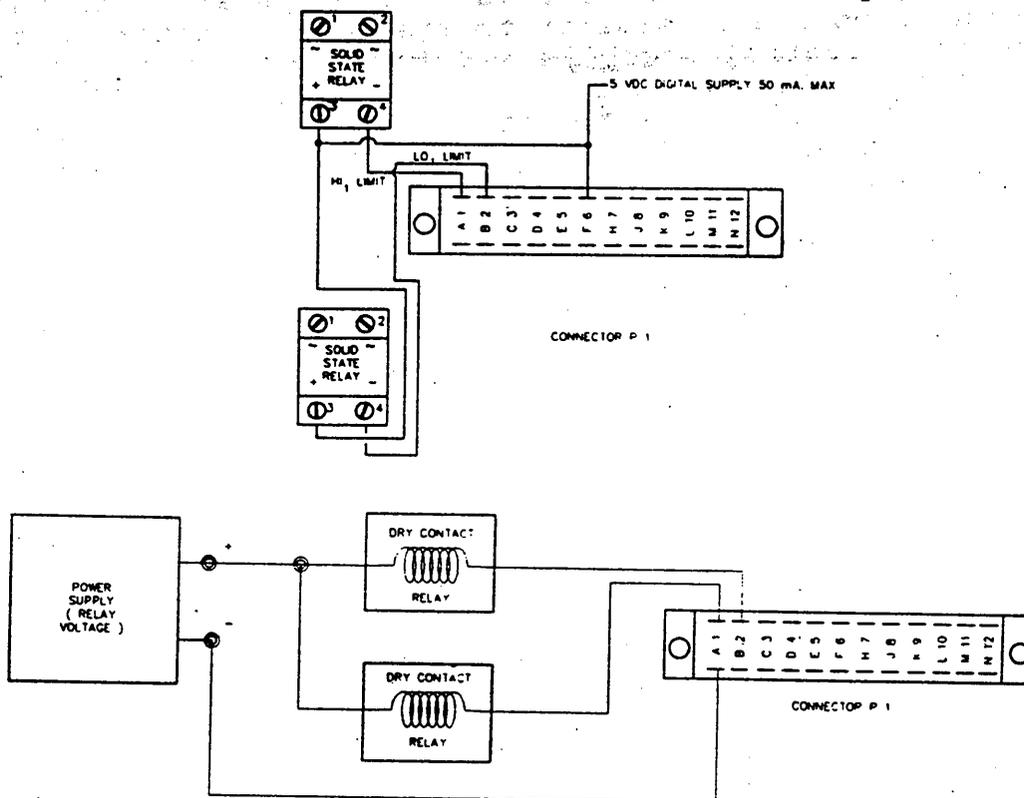

Figure 7.1 - Model 450d Limit Wiring Diagram's
2. Open drain V-MOS FET transistors are provided to drive external relays for the limits. The user should provide either solid state or dry contact relays requiring 36 volts or less at a current not exceeding 200ma. Figure 7.1 depicts the suggested wiring to the Model 450D. A protection zener diode is mounted across the transistor rated at $43V \pm 10\%$ at 1 watt.